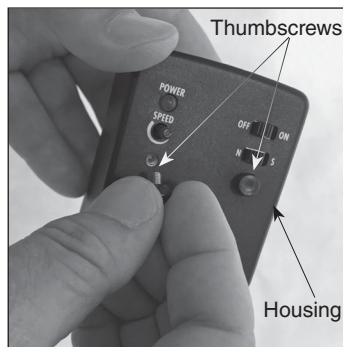

Figure 3. Remove the two thumbscrews to remove the housing from the motor drive.
1. Make sure the power switch is in the OFF position. Unscrew the two thumbscrews on the front panel and remove the housing (**Figure 3**).